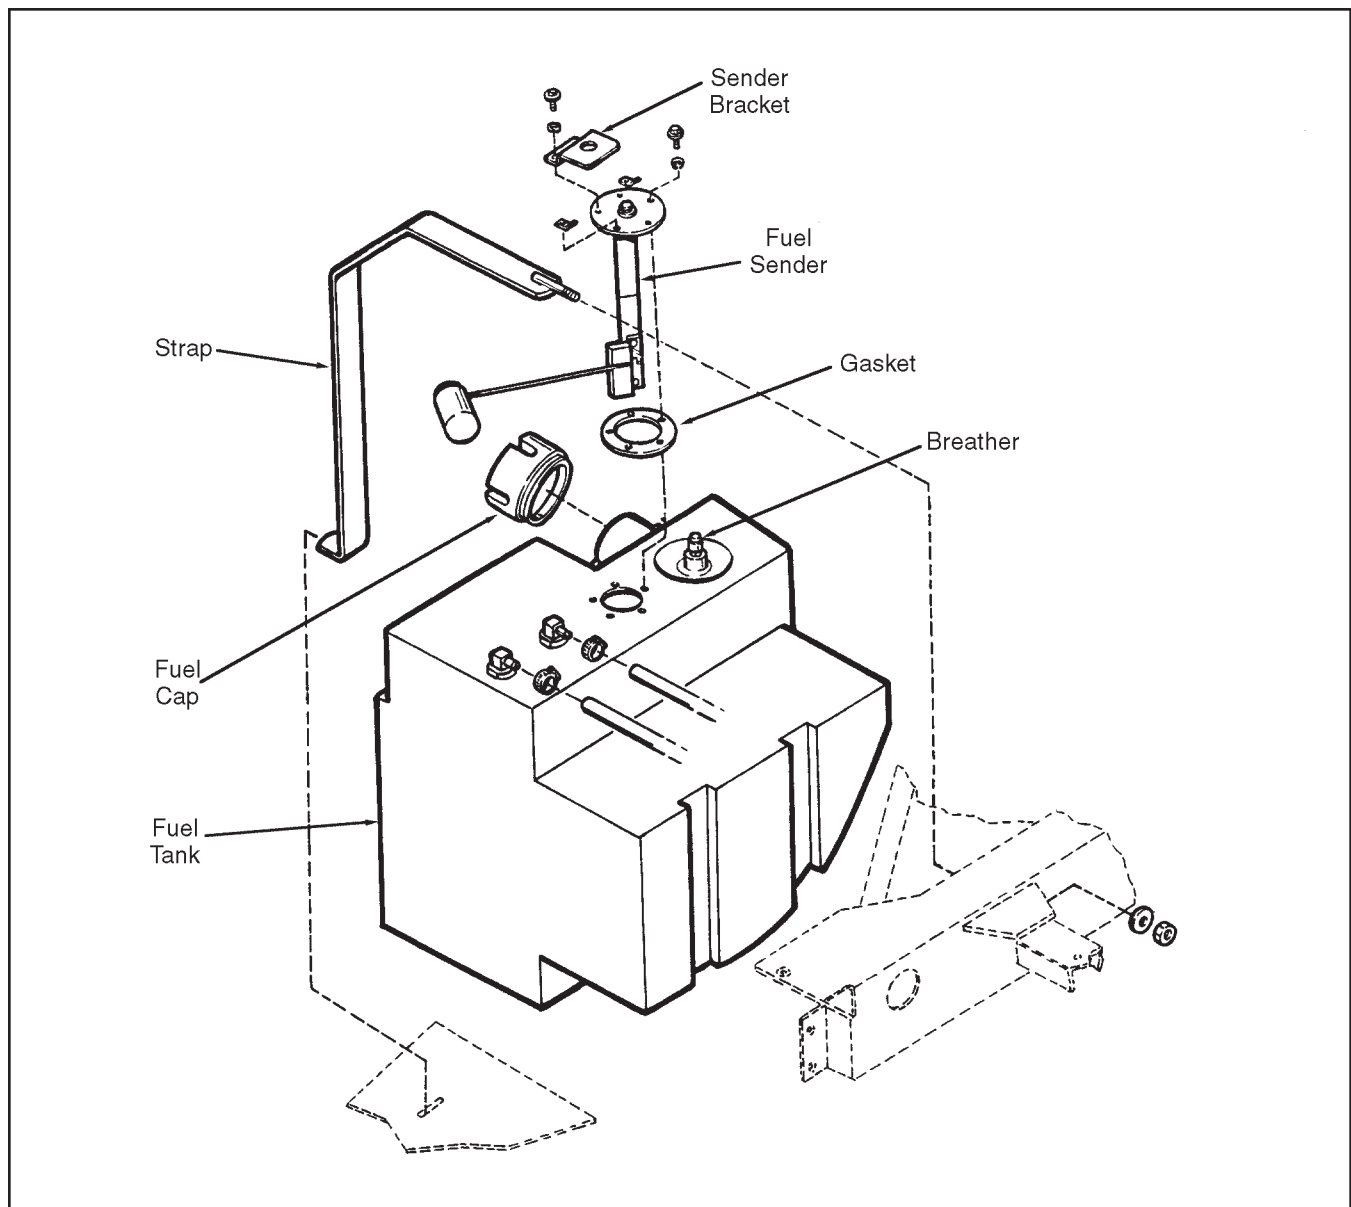

Figure 9C-1. Fuel Tank Removal and Installation
(See Figure 9C-1)
4. Replace damaged or leaking tank and install as shown in Figure 9C-1.